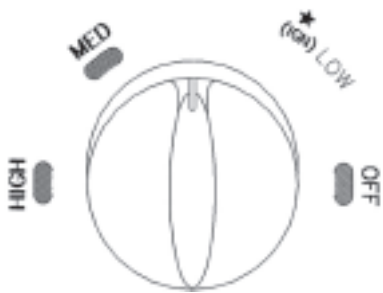

Figure 3 – Heater Control Knob
5. Depress heater control knob and turn counterclockwise to (IGN) LOW position to light burner (see Figure 3).